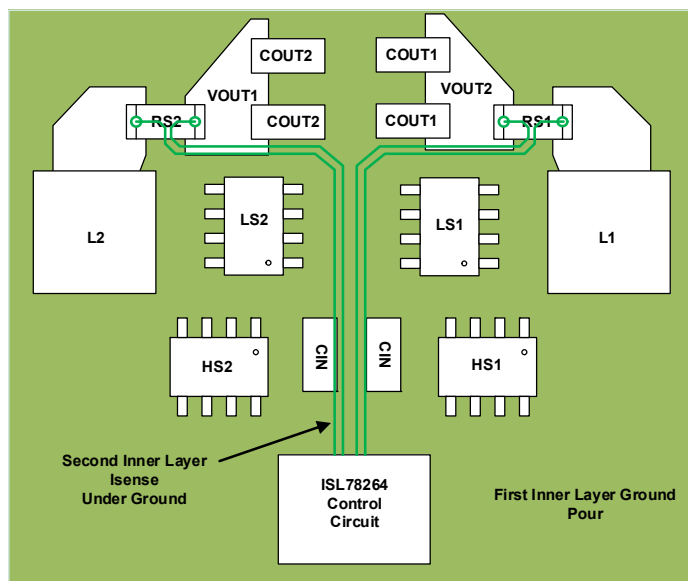

Figure 32. PCB Layout Illustrating Current Sense Routing
3. The first inner layer below the top copper layer with power components should be ground layer that is as complete as possible, as indicated in Figure 32 using light green fill. This provides a tightly coupled ground return path for the power circuitry. This layer is also used in conjunction with many vias to create a low impedance connection from the common power GND region to the ISL78264 controller. Connect the thermal pad underneath the IC to inner planes with at least six vias, each with 0.3mm diameter, spaced 1mm apart
5. Each converter has ISNS connections that should be routed as shown in Figure 32. The ISNS traces are routed on the second inner layer, which is shielded from power switching currents by the ground area on inner layer 1. The ISNS traces should begin as a Kelvin connection through a via in the center of the sense resistor in each converter.